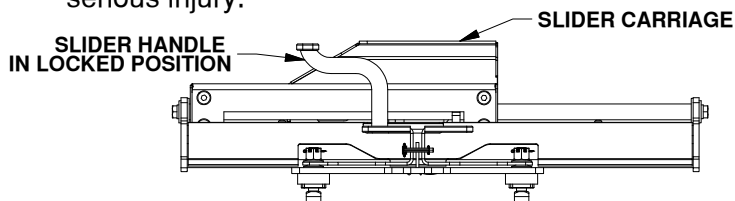

Figure A1: View of driver side of Slider Base.
**⚠ WARNING:** Whenever the slider base is being moved, the slider handle must be in the locked position, and the carriage must be unable to slide, see Figure A1. Failure to ensure that the handle is in the locked position can lead to property damage, or serious injury.